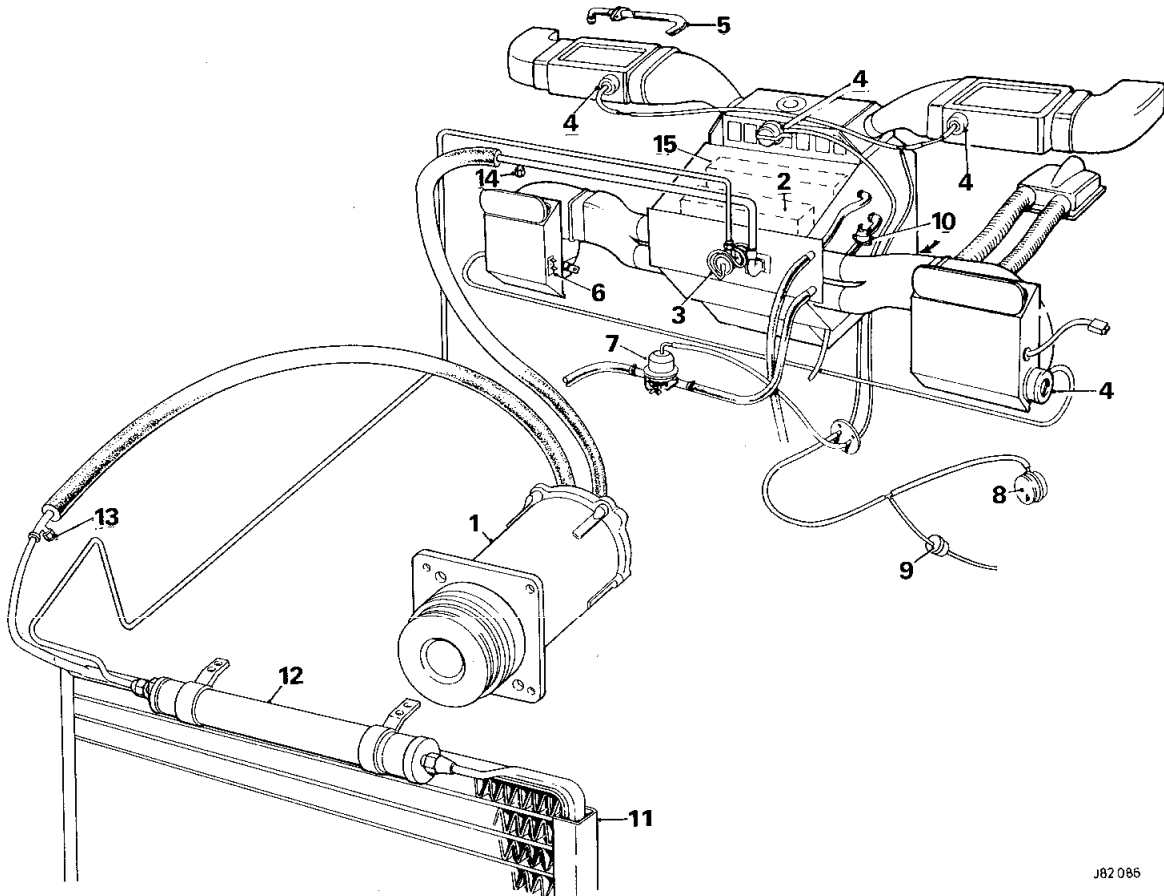

Fig 1
**KEY TO COMPONENTS (Fig. 1)**